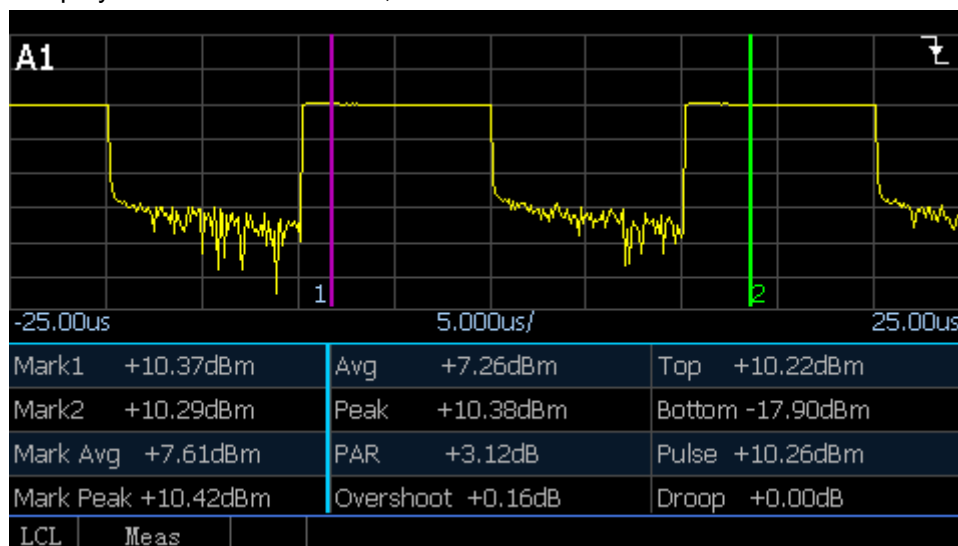

Fig. 4.2 Automatic Measurement of Power Parameters in Several Periods
- 6) Set [Channel]>[Trace Ctrl] to enter the trace control interface and set [Meas Para] >[Pwr] to obtain display of several waveforms and automatic measurement of power parameters as shown in Fig. 4.2 ;